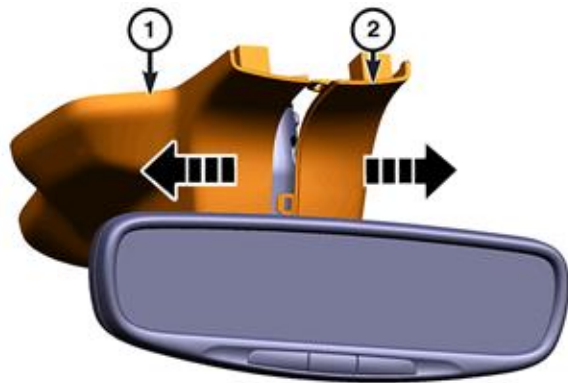

Figure 1 – Upper Mirror Trim
3. Using a small flat bladed tool, carefully release the clips down the center of the mirror trim (1 and 2). Then slide outward and remove. Discard the driver side half of the cover (Figure 1).